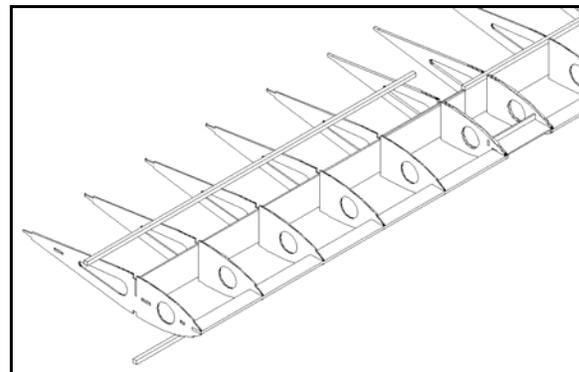

Figure 6
6. Inspect bass wood spars for knots and install spars with knots to the outside edge of the wing. Install 3/16" x 3/16" bass wood spars so that the two pieces meet in the center of the wing (top and bottom). **Again, it's important not to glue until told to do so!** (Fig. 6)